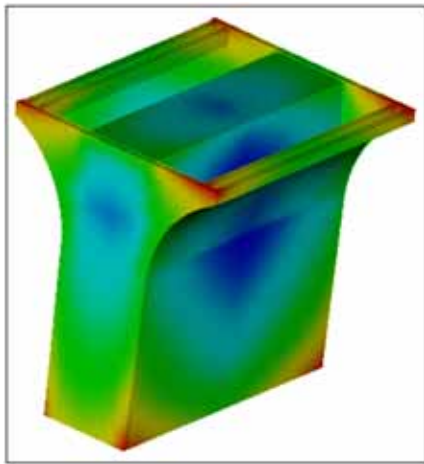

Figure 92: Paper holder - best gate
2. Rotate the model to view all sides and then pick a good rotation where you can see the blue area(s) well. A good rotation is shown in Figure 92.